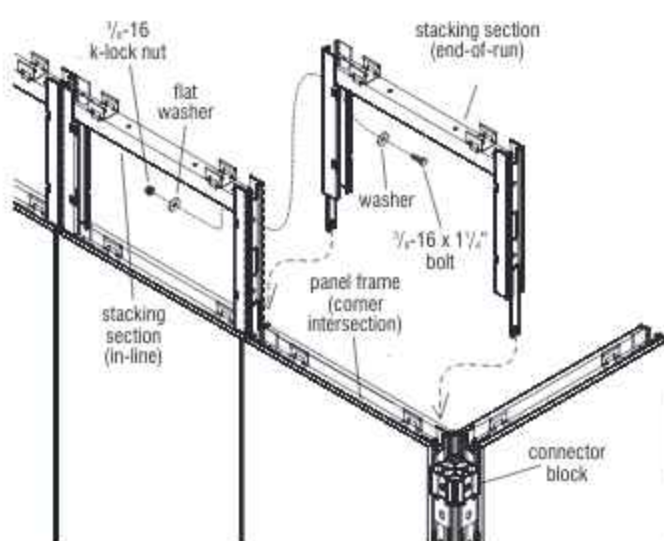

Figure 8 - Stacking Sections (steel frame) - Intersection & In-Line Assembly
**Important:** Stacking sections have vertical posts with "forks" that drop into the tops of standard panel frames (after the top caps are removed) and do not require a fastener unless mounted at the end-of-run (Figure 8).
1. Position a stacking section at the intersection as illustrated. Press the posts into the cavities at the top of the panel frame. The stacking section fork will rest on top of the  $\frac{3}{8}$ -16 x  $1\frac{1}{4}$ " bolt attaching the connector block to the frame at the intersection. Section frame may be tapped in place using a rubber mallet (Figure 8).
1. At a joined pair of panel frames, position one stacking section into the cavities at the top where two panel frames meet. Place the next stacking section into the cavities at the top where two panel frames meet side-to-side with the previous section as illustrated. Sections may be tapped into place one at a time using a rubber mallet (Figure 8).
2. Secure the side-to-side stacking sections together using a  $\frac{3}{8}$ -16 x  $1\frac{1}{4}$ " hex head bolt, two washers and a  $\frac{3}{8}$ -16 k-lock nut (Figure 8).